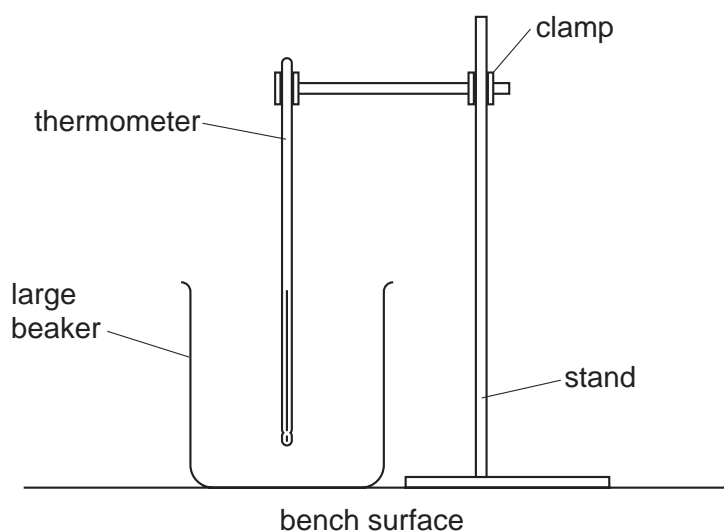

Fig. 2.1
- (ii) The Supervisor should clamp the thermometer vertically with the bulb of the thermometer in the larger beaker. The thermometer must not be directly over the base of the stand so that the thermometer may be moved from one beaker to the other without adjusting the clamp and boss. This is shown in Fig. 2.1. The bulb of the thermometer should be just above the base of the larger beaker. The Supervisor should ensure that the clamp does not obscure the scale of the thermometer in the region of 90 °C to 70 °C. Once the thermometer is clamped in the correct position, the Supervisor should indicate with a label that the clamp and boss should not be adjusted during the experiment.